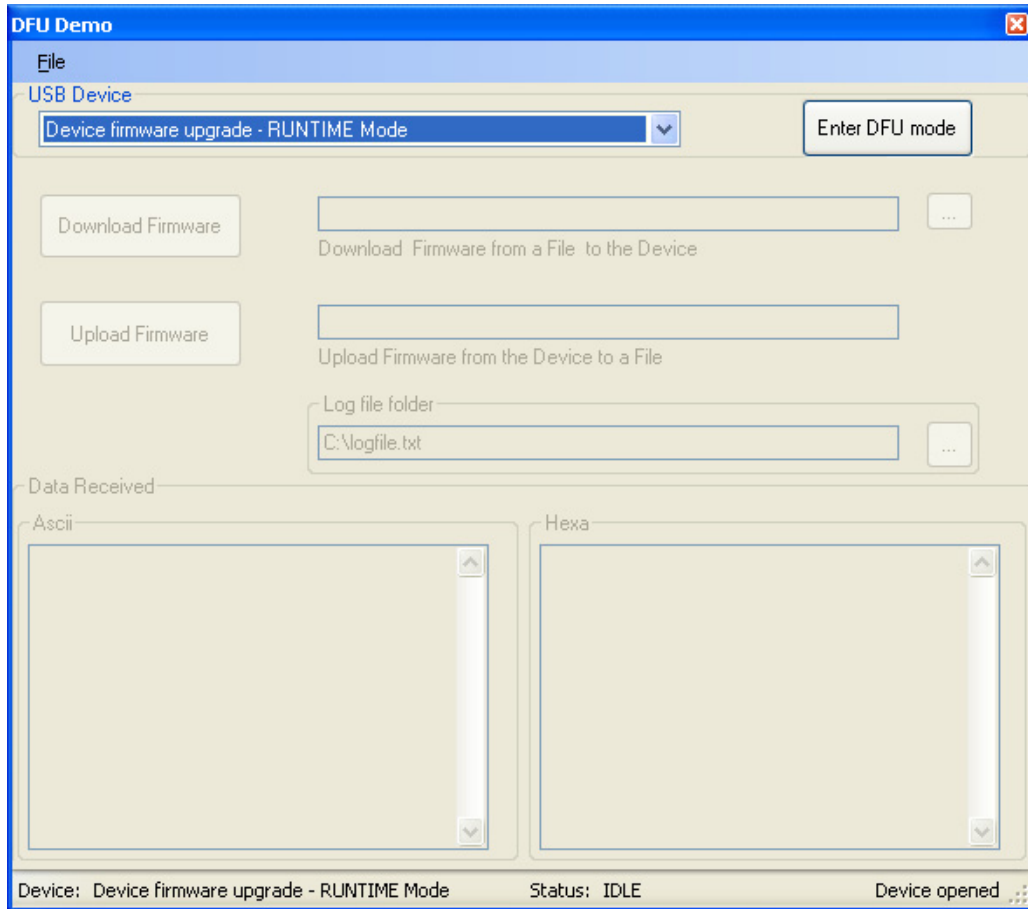

Figure H-9. Device firmware upgrade - Runtime mode
5. Launch DFU PC host application. The PC host application also recognizes RUNTIME mode is running as shown in Figure H-9. Click “Enter DFU mode” to switch the device to DFU mode.